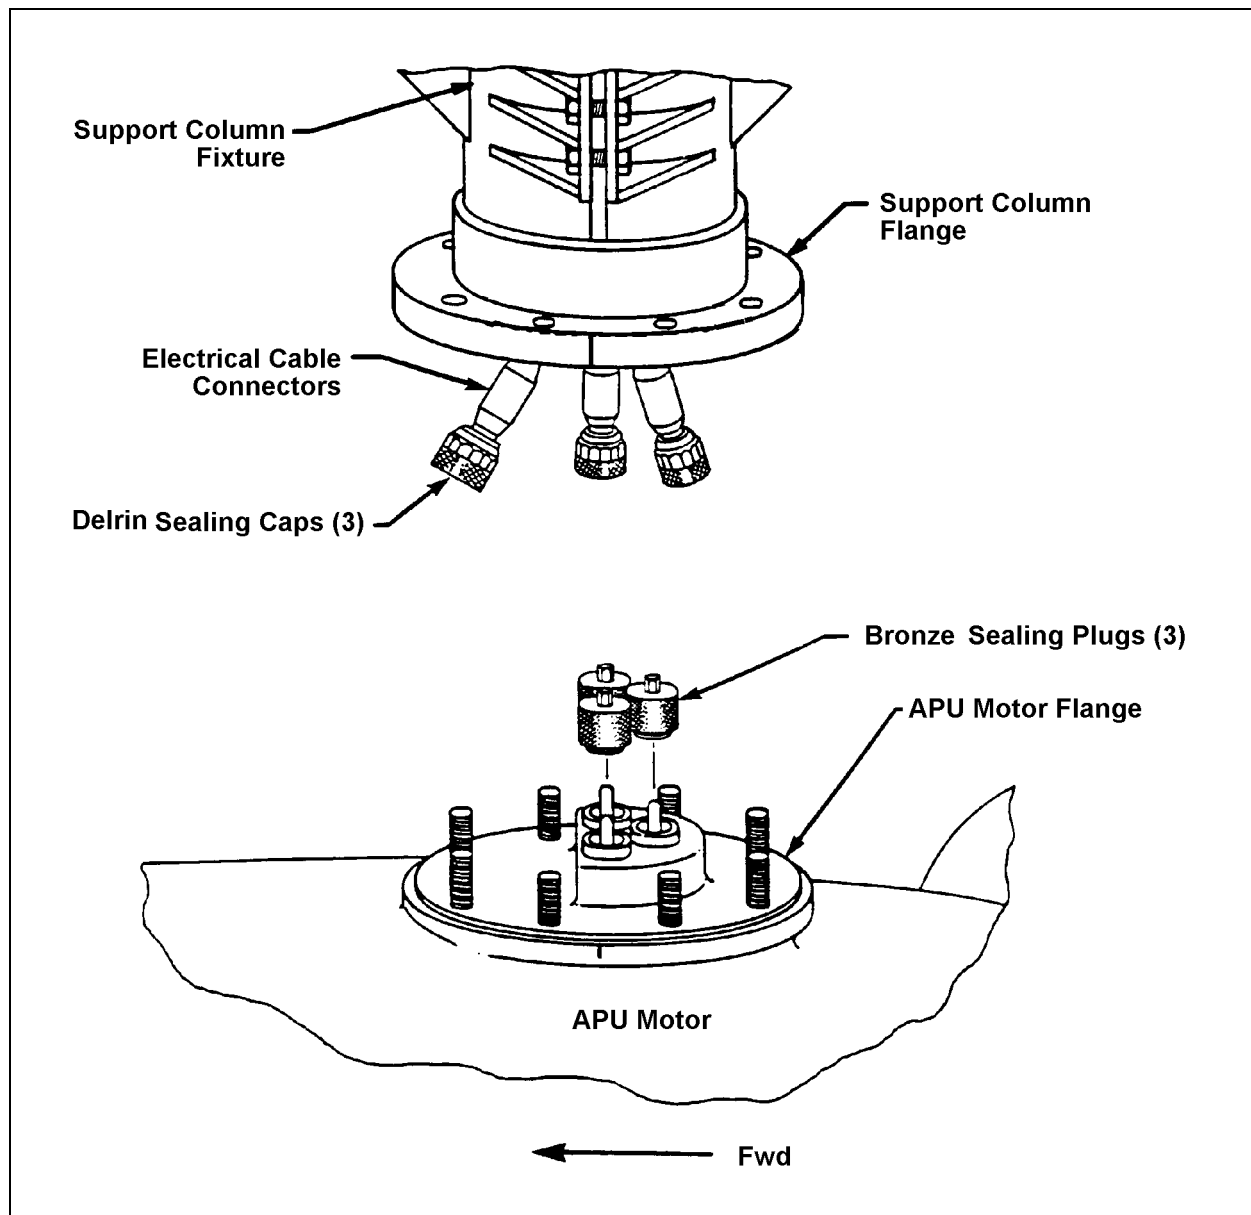
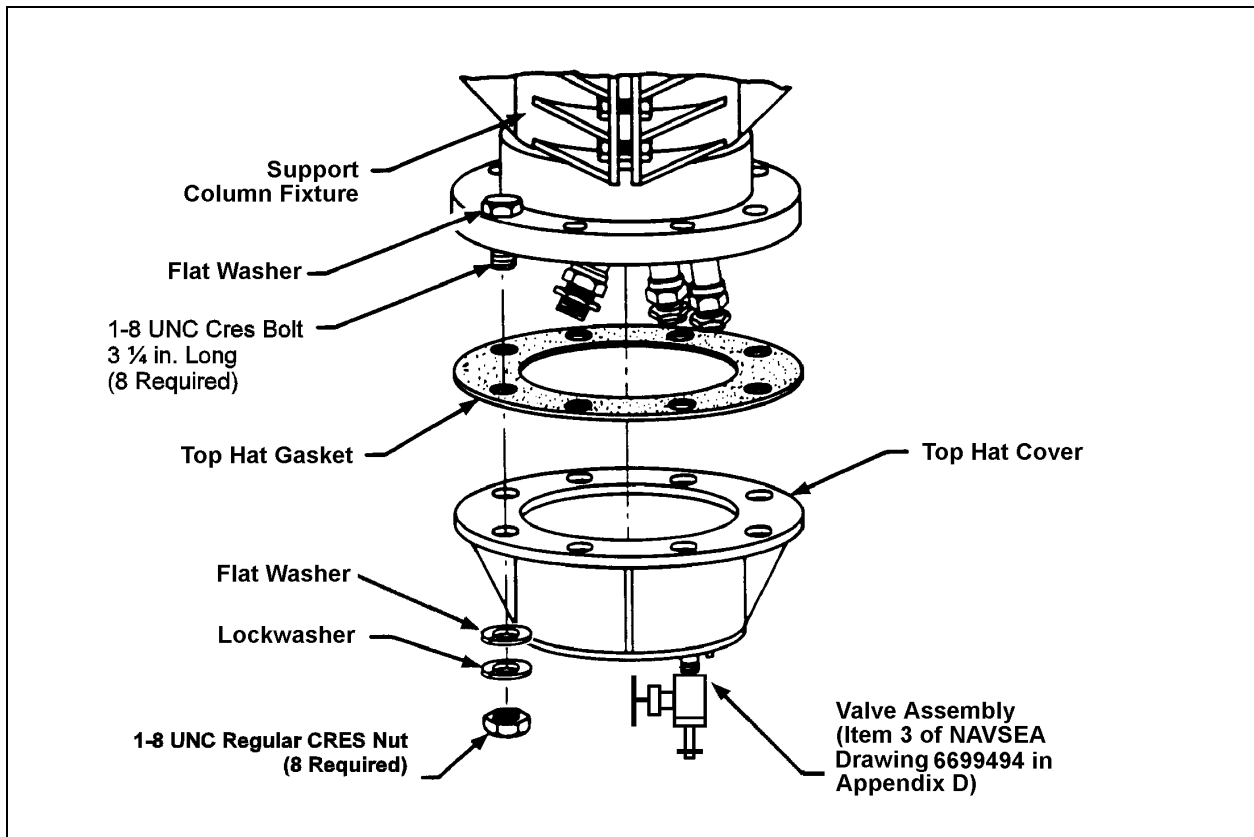

Figure 4-6. Installation of Special Seal Plugs and Caps.
Figure 4-7. Installation of Top Hat Cover and Gasket.
electrical cables, APU motor connectors and special seal plugs. Install the special seal plugs on the APU motor connectors and the special sealing caps on the electrical cable connectors (Figure 4-6). Install the top hat cover and gasket on the bottom of the support column. Ensure that the valve assembly (item 3 of NAVSEA Drawing 6699494 in Appendix D) is installed in the threaded hole in the top hat cover (Figure 4-7).
**4-2.5.3 (DV)** Confirm that the top hat cover with valve assembly is installed with the gasket on the support column flange (Figure 4-7). Check the vent valve shut.
**4-2.5.6 (TOP)** Lift the closure plug out of the way and pull 3 feet of boat winch wire off the boat winch. Ensure that the rubber sleeve (item 29 of NAVSEA Drawing 6699494) is still securely glued around the outside diameter of the closure plug before shackling the boat winch wire to the secondary seal disk.
**4-2.5.20 (DV)** Remove the top hat cover.
**4-2.5.22 (DV)** When the secondary seal disk emerges from the bottom of the support column, tie a small loop of line through the eyebolt in the secondary seal disk. Use the loop to hook on either of the support column fixture hoists to take over the weight of the cables and secondary seal disk from the boat winch wire.
**4-2.5.23 (DV)** Disconnect the boat winch wire from the secondary seal disk eyebolt. Use the hoist to yard and stay the secondary seal disk and cables to the surface via the crane.
**4-2.5.24 (DV)** Install the top hat cover and gasket on the support column flange (Figure 4-7). Shut the vent valve.
**4-2.5.26 (TOP)** On the pier, install three cables that have passed the electrical insulation resistance (megger) check onto the secondary seal disk. Ensure that the APU motor end of each cable is labeled T1, T2, or T3 to correspond with the connection to the marked secondary seal disk. Replace the O-ring (2-445, item 13 of NAVSEA 6699482) on the secondary seal disk with a new, lubricated O-ring.
**4-2.6.2** Install the three sealing plugs (Figure 4-6) on the APU motor.